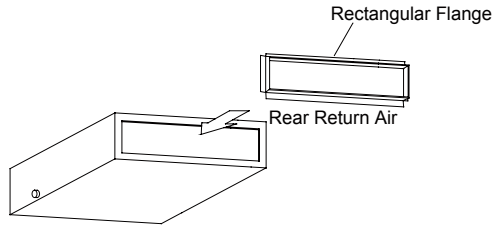

Fig.37
① . The maximum length of the duct means the maximum length of the supply air duct plus the maximum length of the return air duct.
② . The duct is rectangular and connected with the air inlet/outlet of the indoor unit. Among all supply air outlets, at least one should be kept open.
- (2). The default installation location of the rectangular flange is at the back, as shown in Fig.37.